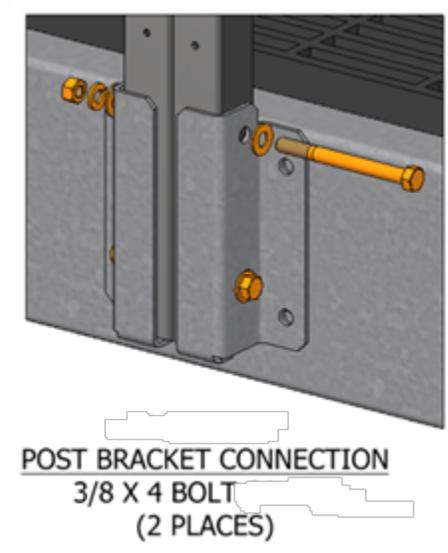

Figure 17. External Platform Railing Installation
2. Figure 17 for bolting details.